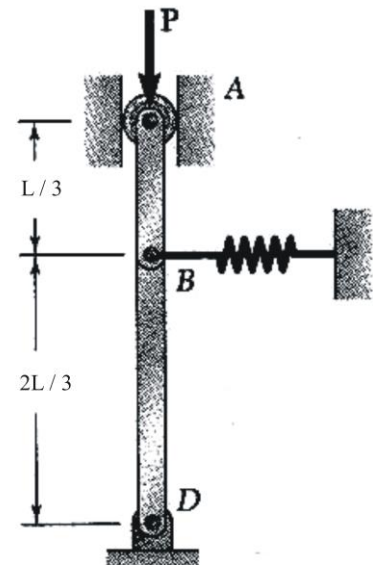

Figure 8
- Two bars are attached to single spring of constant  $k$  that is unstretched when the bars are vertical. Determine the range of values for which the equilibrium of the system is stable in the position shown in Figure 8.